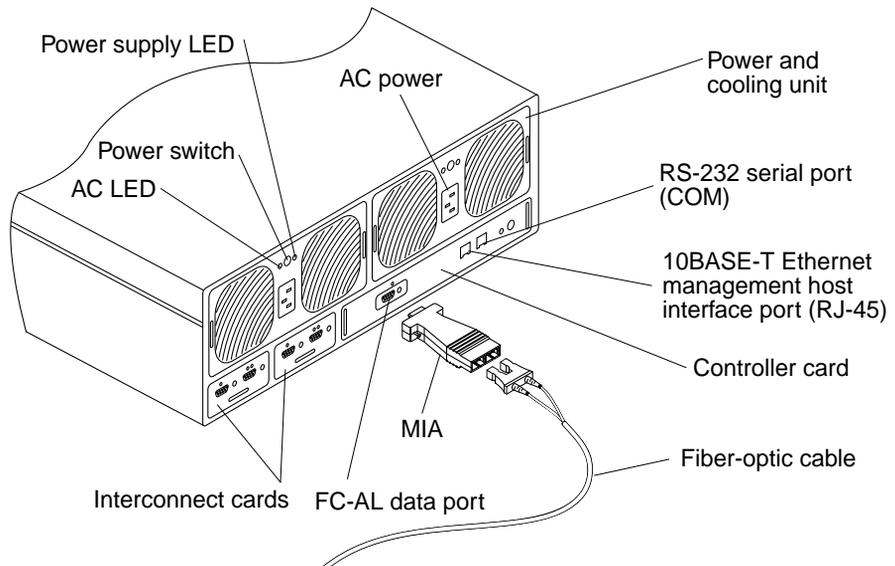

FIGURE 2 Array Back Panel Details
Use a Media Interface Adapter (MIA) to connect the fiber-optic cable as shown in FIGURE 2
Use a Media Interface Adapter (MIA) to connect the fiber-optic cable as shown in FIGURE 2.
- 1. Connect a terminal to the COM Port (see FIGURE 2) on the back of the MCU array.**